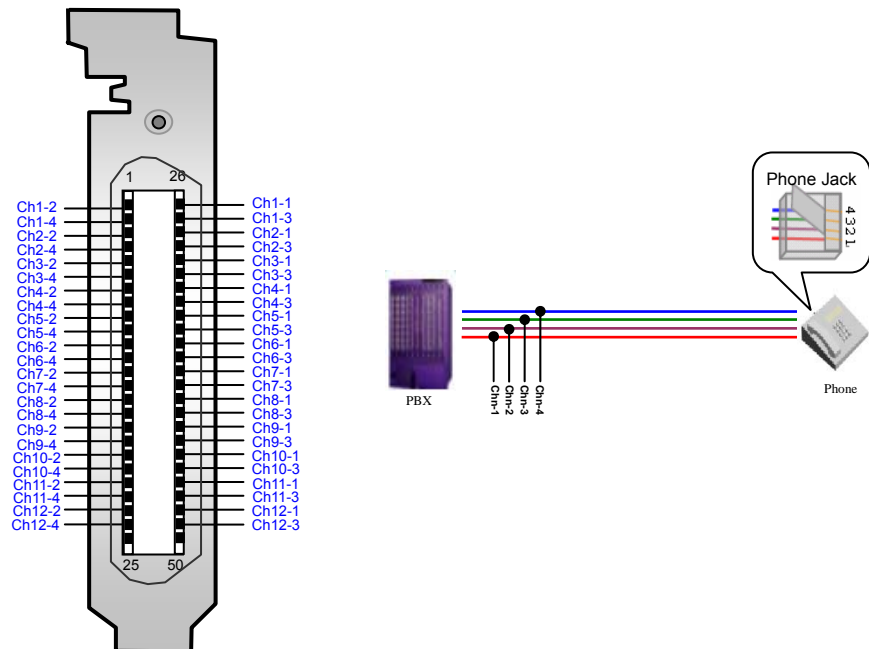

Figure 2-14
- 3) NOTEL M2250 digital phones: See Figure 2-14 below. In parallel, connect the 1st and 2nd leads of the communication line between the PBX and a phone to CHn-1 and CHn-2, and the 3rd and 4th leads to CHn-3 and CHn-4.